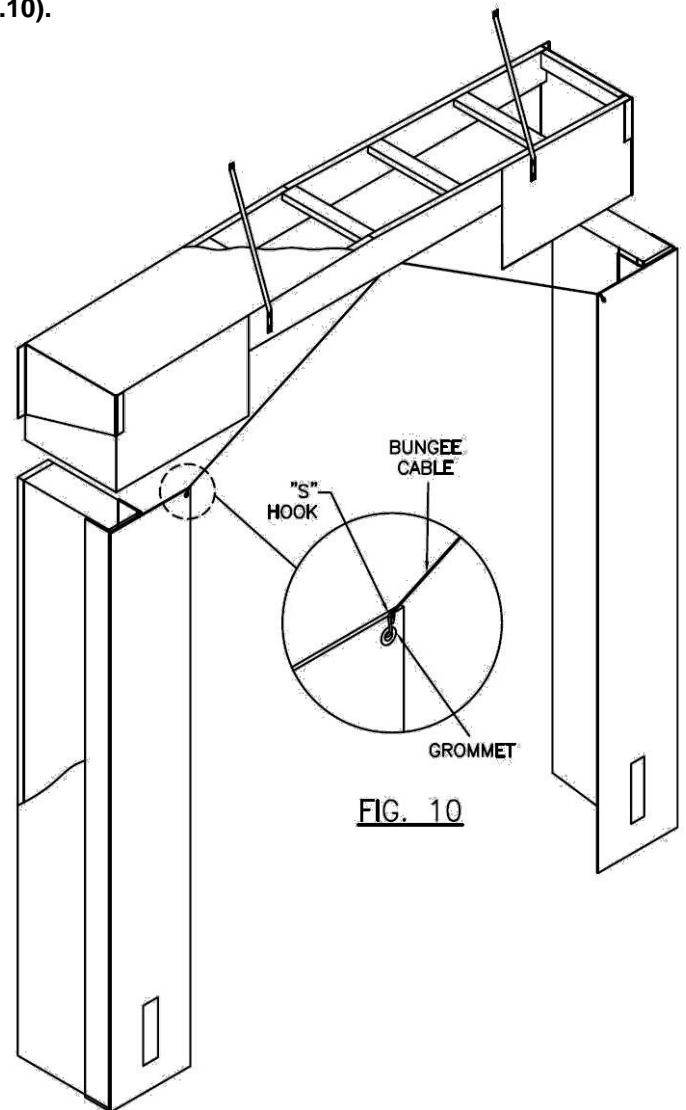

FIG. 10
- v. Lastly, attach the Bungee Cables to the Removable Inward Panel by hooking the "S" Hook through the Grommets at the top corners of the left and right Removable Inward Panels (**Fig.10**).